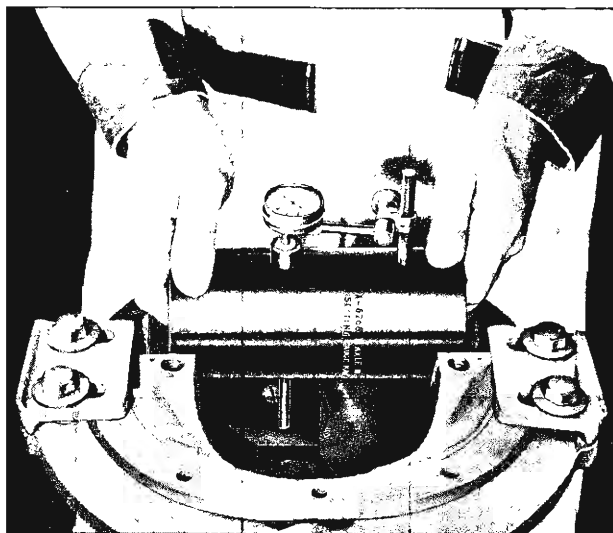

Fig. 22—Checking Pinion Setting Gauge Dial Reading
6. Position gauge plate on rear bearing so that the chamfered corner is towards pinion side and top of differential as installed in the car. See Figure 22.
9. Install Tool J-6266 body assembly across differential bores (fig. 22). Plunger on body must point inward toward center of pinion rear bearing.
10. Mount a dial indicator J-8001 on the tool body post with the indicator button on top of the tool plunger (see Figure 22). Swing body so that plunger does not touch gauge plate, and set indicator dial at zero.